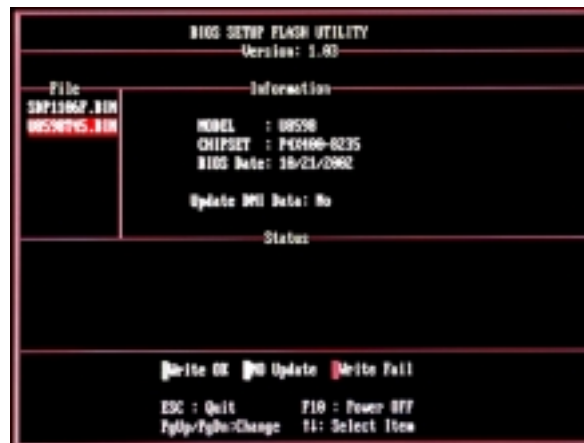

Figure 2
6. Press " Arrow Up/Down " key to choose BIOS file, refer to Figure 2